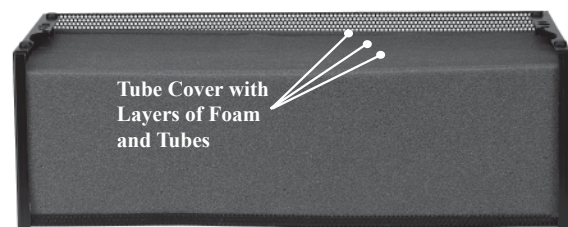

Figure 2
3. Orient the Tube Cover to the wide opening along one side of its longer dimension. Refer to figure 2.